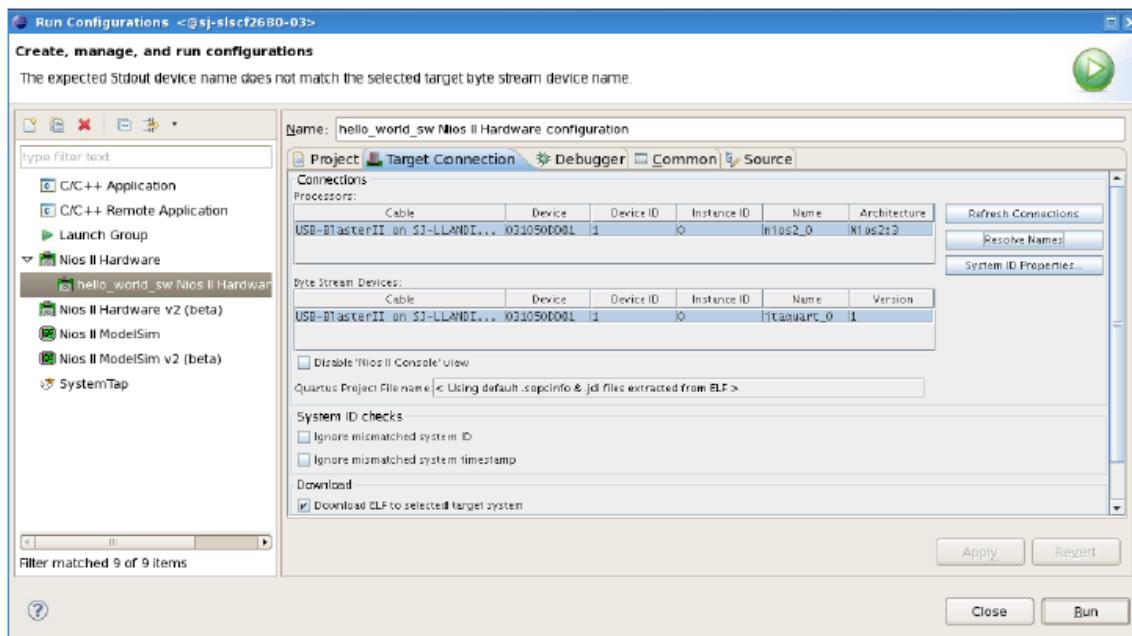

Figure 46: Eclipse SBT Tools after Connection is made to the USB-Blaster
- Once the connection is made to the USB-Blaster, you should observe something like Figure 46.